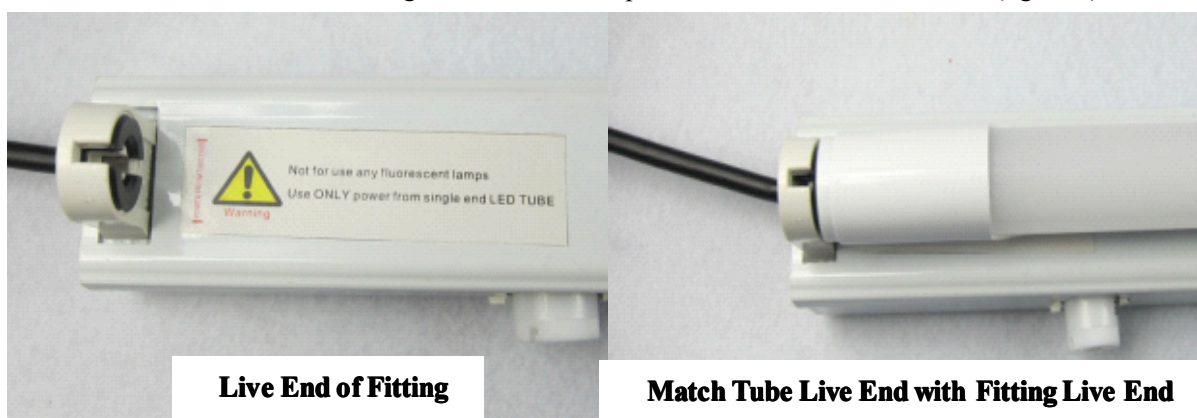

Fig6
STEP3 - Install the COMLED T8 LED Tube Lamp in the fitting matching the live side (indicated on label) of the lamp to the “live end” side of the fitting. Be sure that the splices or connector are insulated (figure 6).